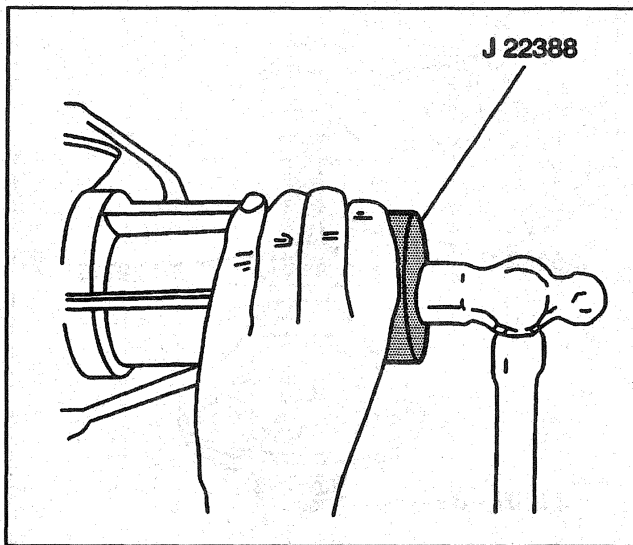

Figure 16—Installing the Pinion Oil Seal
- 5. Pinion oil seal using J 22388 (Figure 16).